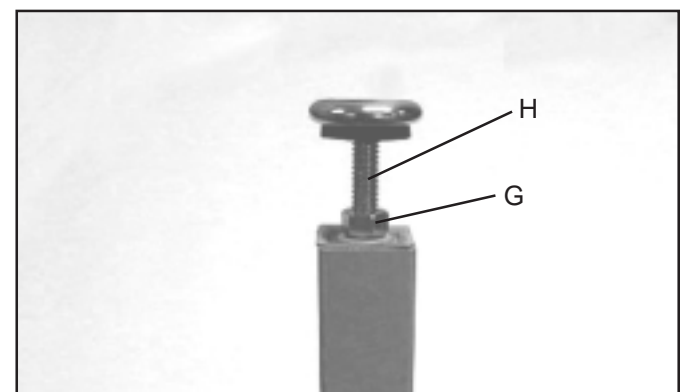

Fig. 10
5. Assemble the 3/8" jam nut (G) onto leveling screw (H). Thread leveling screw into bottom of support leg. Fig. 10 illustrates the foot leveling assembly on the table leg. Assemble the remaining foot assembly to the other leg in the same manner. **NOTE: Height adjustment will be made later.**